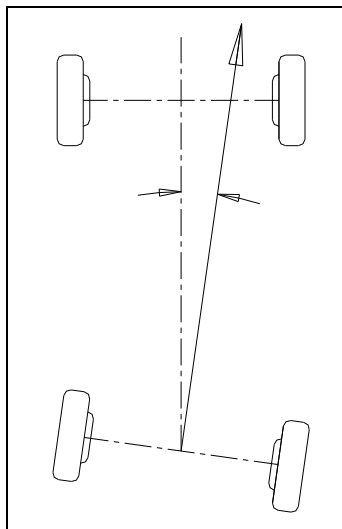

Fig. 1.6
- Rear wheel driven: The thrust angle equals half of the toe-in difference between the two rear wheels. As shown in Fig.1.6.